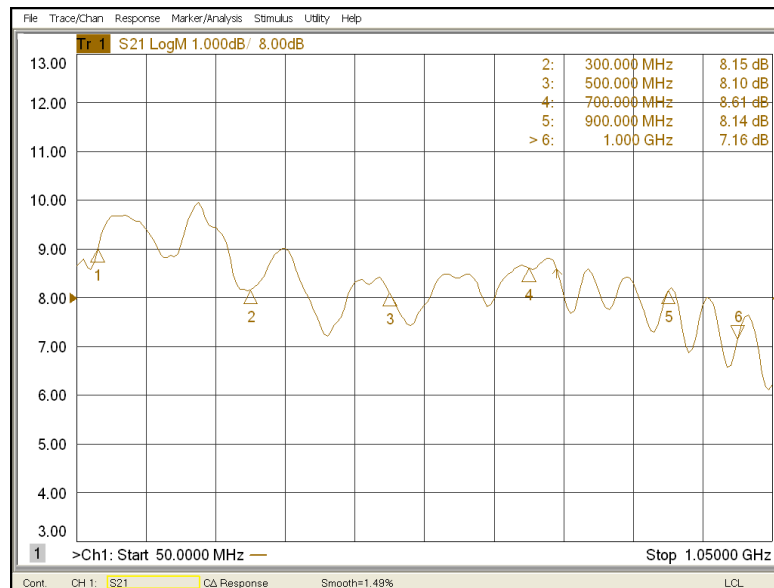
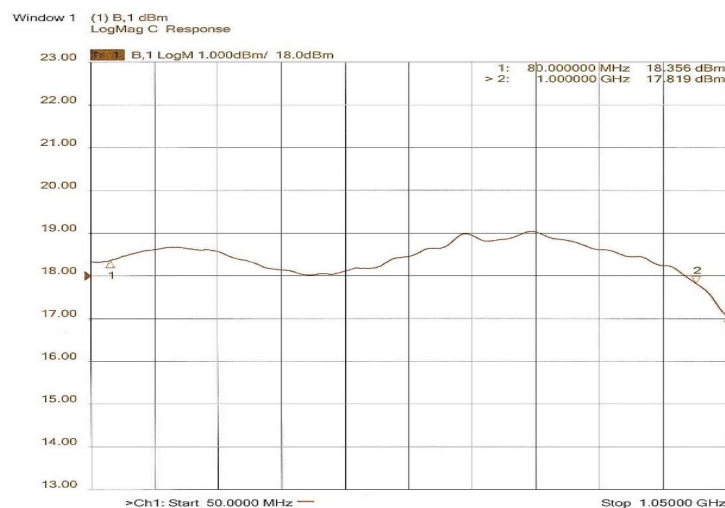

Figure 4-4. Input of Two-Way Splitter Thru 8-Way Splitter
Figure 4-5. Typical Module Response
NOTE: If the original gain is low, the amplifier chain can be separated into two halves at the input to the A3 Two-Way Splitter thru the A4 8-Way Splitter. W5 should be terminated into 50 Ohms (Final Modules A6-A13). The other half of the amplifier can be checked at the input to A3 Two-Way Splitter thru the A5 8-Way Splitter with W4 terminated into 50 Ohms (Final Modules A14-A21). Both half sections should be relatively equal in gain. Figure 4-4
- If both half sections resemble Figure 4-4, and the gain is still slightly low (i.e., several dB below typical), try disconnecting the inputs from the Final Modules one at a time, then reconnect them. Note the difference in response when disconnecting the module; if any module causes less of a change in gain than the others, check the module and the coaxial cable associated with that module. Typical module response is shown in Figure 4-5.